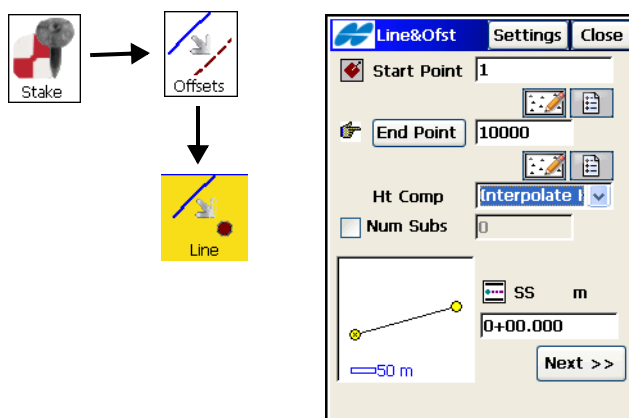

Figure 9-21. Stakeout Line &amp; Offset Parameters
- Tap **Stake ► Offsets ► Line** (Figure 9-21 on page 9-16).
- In the **Line&Ofst** (Stakeout Line & Offset) screen, set the direction of the line, the type of height computations for the stakeout point (currently the stakeout point will have the same height as the starting point of the line), the number of subdivisions of the line (if an end point is specified) and the starting station (chainage) of the line. Tap **Next** (Figure 9-21 on page 9-16).